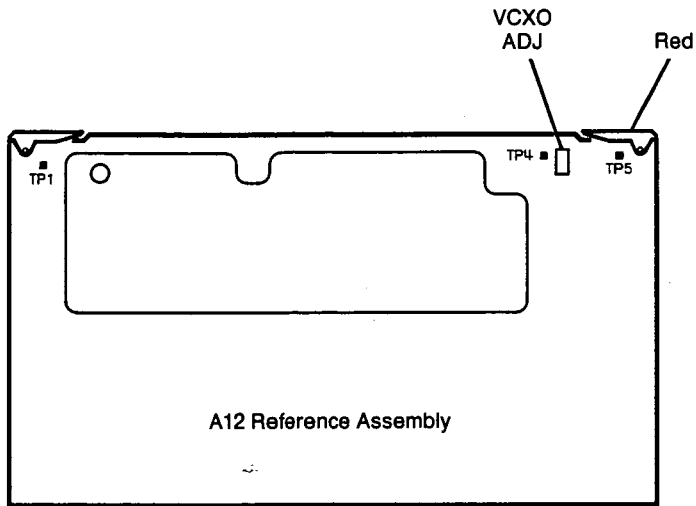

Figure 10. VCXO Adjustment Location
3. Otherwise, locate the A12 assembly (red extractors) and adjust VCXO ADJ (see Figure 10) for a frequency counter reading as close to 20 GHz as possible. It must be within $\pm 200 \text{ kHz}$.